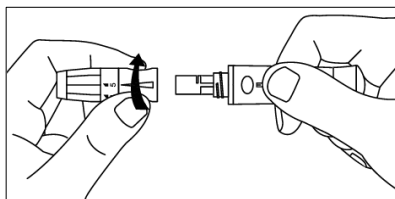

Fig 5.29
Step 1: Unscrew the lancing device cover from the body of the lancing device. (Ref Fig 5.29)